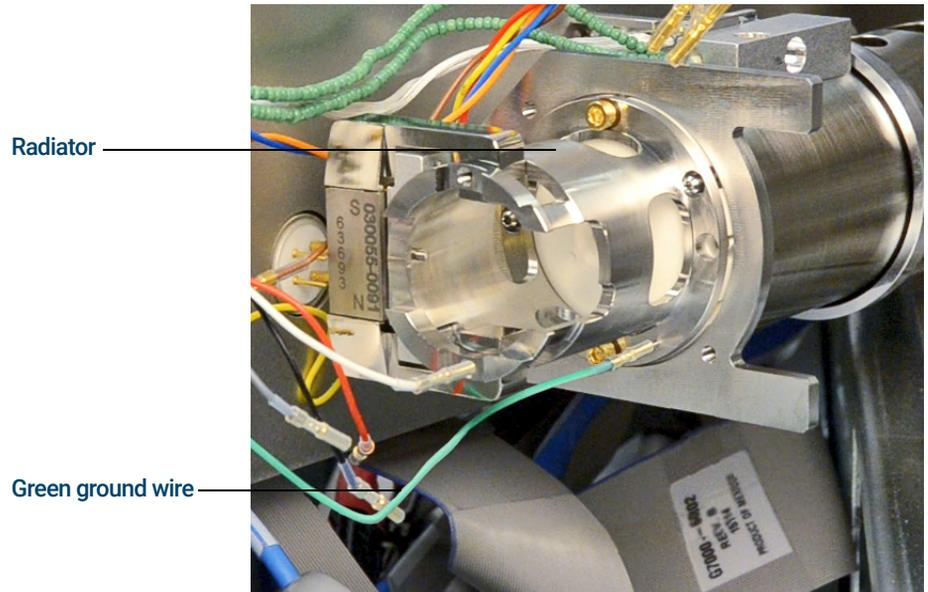

Figure 72 CI Source radiator
- 2 Connect the green ground wire to the radiator. (See Figure 72.)